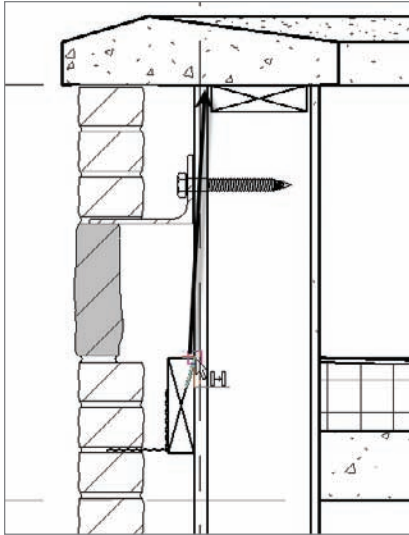

FIGURE 12.42 Rotating the blocking after copying it
3. Pick the base point of the upper-right corner, as shown in Figure 12.42.
4. Copy the blocking to the point shown in Figure 12.42.
5. Select the new blocking and rotate it into position, as shown in Figure 12.42. (You will also have to nudge the blocking, using the arrow keys to center it into the wall.)